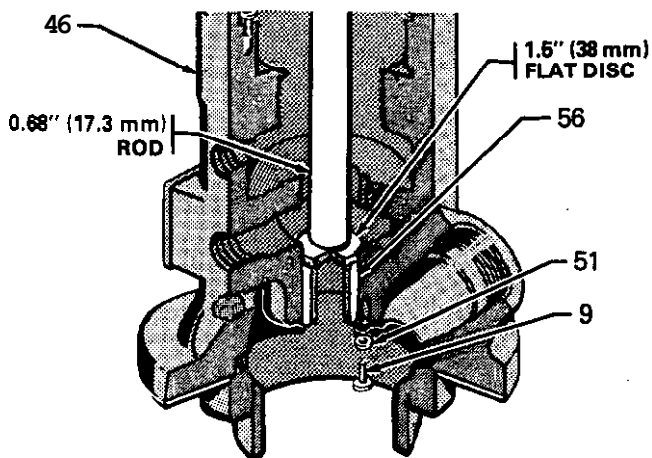

Fig 14
- e. Check the bearings for concentricity. Place the checking fixture 177-218 on the bowl as shown in Fig 14. Drop the long end of the checking tool 177-217 into the center hole of the fixture. The tool should turn freely without binding. If the tool binds, the bearings must be replaced.